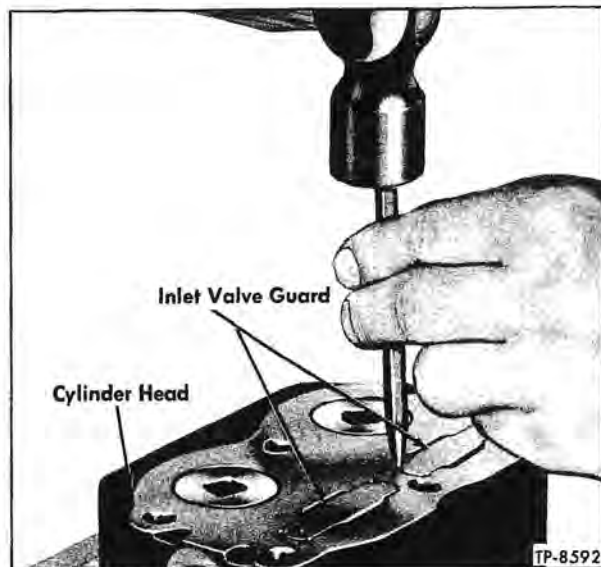

Figure 9—Staking Inlet Valve Guard in Cylinder Head
3. Place one inlet valve in recess in bottom of cylinder head, with hole in valve aligned with valve guard pin hole in head. Place inlet valve guard on top of inlet valve, with dowel pin inserted through hole in inlet valve into cylinder head. Tap guard firmly into place; then stake in place at four points (fig. 9). Install the other inlet valve and valve guard in the same manner. After both valves are installed, turn cylinder head over and check operation of valves. Using one of the inlet valve plungers without spring, insert plunger down through cylinder head onto inlet valve. Press inlet valve down against valve guard; then make sure inlet valve springs back up when released.